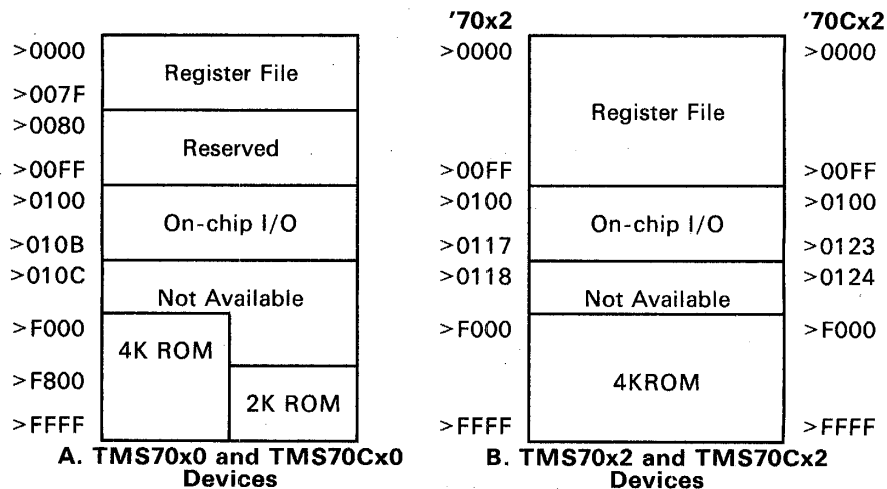

Figure 3-6. Single-Chip Mode Memory Map
Figure 3-6 shows the Single-Chip mode memory map. The unused Peripheral File (PF) locations and off-chip memory addresses cannot be addressed. If you attempt to read one of these locations, an undefined value is returned. Writing to these addresses has no effect. Peripheral-File registers P0-P11 reference the I/O ports and other on-chip functions. Table 3-7, Table 3-8, and Table 3-9 list the Peripheral-File registers that are available in Single-Chip mode.